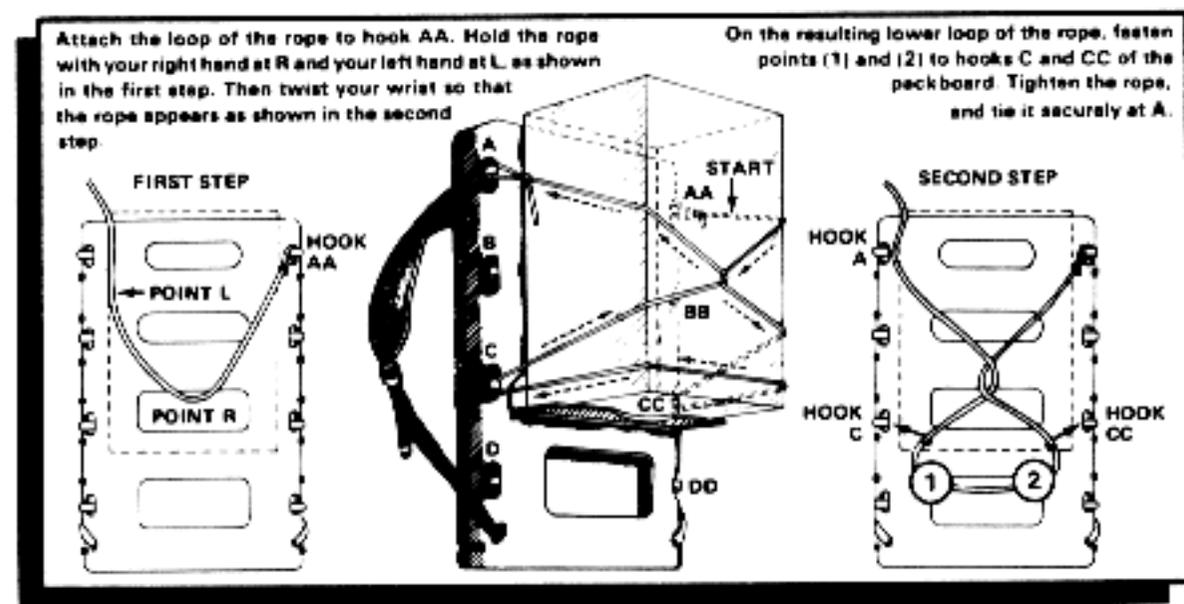

Figure 4-45. Quick lashing method.
**Quick lashing method.** Refer to figure 4-45 for a quick lashing method.